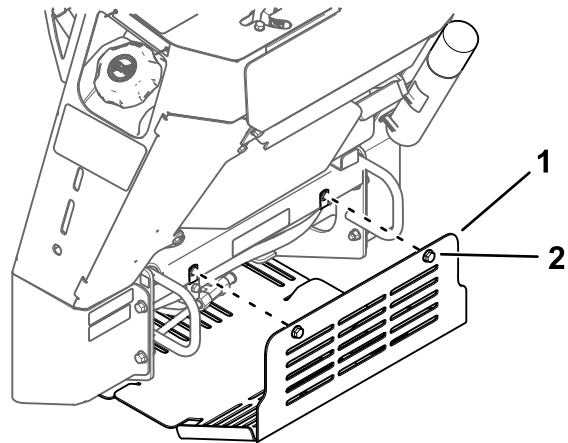

Figure 24
3. Loosen the 2 bolts securing the bottom shield sequentially until the shield is free (Figure 24).